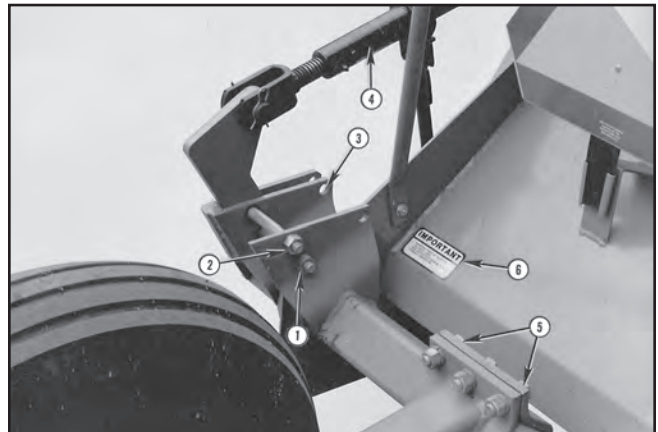

FIGURE 79
1. The wheels are offset, that is, wheel "dish" is greater on one side than the other. Install wheels and tires with the DEEPEST DISH TOWARD the wheel leg as at Item 1 in Photo 3214. This places its loaded centerline between the hub bearings. Torque up the (6) 1/2" wheel bolts on each wheel.
6. Refer to Figure 79, Item 2 and extract 5/8" x 6" lockup bolt and nut from its shipping position and insert thru holes Item 3. Ensure the bolt head faces toward the machine's centerline.